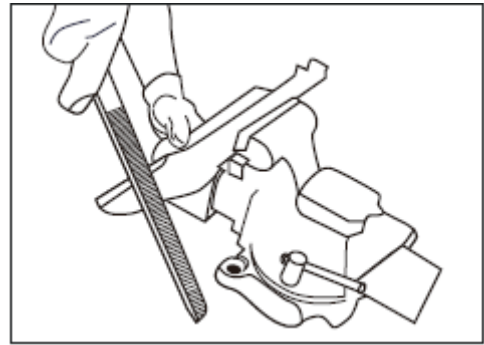

Fig. 17
- Clamp the blade in a vice (see Fig. 17).